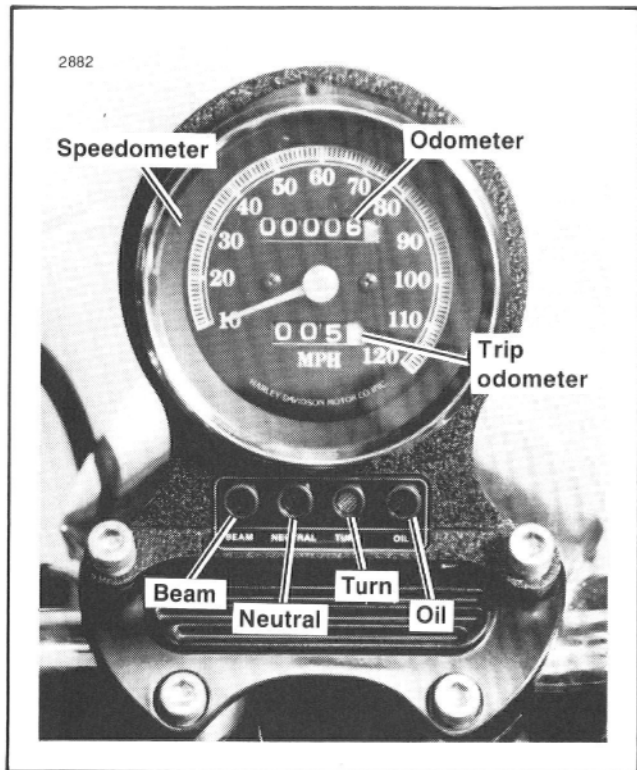

Figure 10. Indicator Lights and Speedometer/Odometer
*See Figures 10, 11. BEAM indicator light remains lit when high beam is on.*
See Figures 10, 11. Four indicator lights are located on the instrument panel which is attached to the upper handlebar clamp. The red OIL (oil pressure) indicator light, when on, signals that oil is not circulating through the engine. During proper operation, light is off. The blue BEAM indicator light, when on, signals that the high beam headlamp filament is operating. The headlamp dimmer switch on the left handlebar controls the headlamp high and low beams. The green NEUTRAL
See Figures 10, 11. The speedometer registers miles per hour of forward speed. The odometer registers the number of miles the vehicle has traveled.